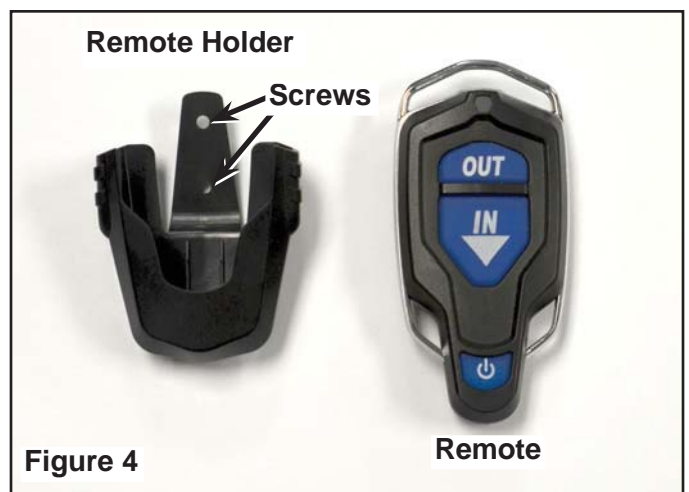

Figure 4
4. Using two more screws, secure the remote holder to the vehicle on a vertical surface. Recommended placement is inside the glovebox to prevent loss of remote in extreme driving conditions. Figure 4